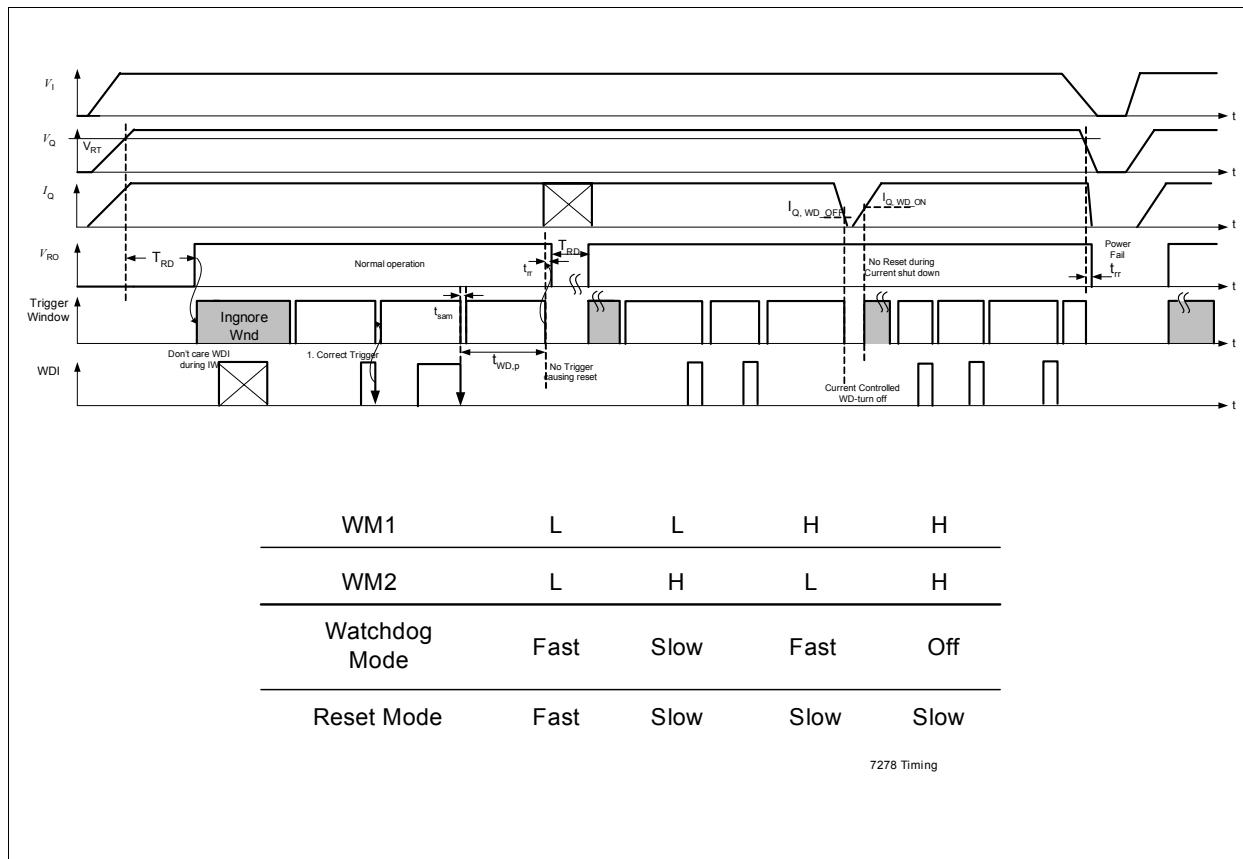

Figure 5 Watchdog Timing Diagram, Watchdog and Reset Modes
| 6 | WM2 | Watchdog Mode Bit 2 watchdog and reset mode selection, see Figure 5 ; connect to Q or GND |
| 7 | WM1 | Watchdog Mode Bit 1 watchdog and Reset mode selection, see Figure 5 ; connect to Q or GND |
The watchdog uses a fraction of the charge pump oscillator's clock signal as timebase. The watchdog timebase can be adjusted using the pins WM1 and WM2 (see Figure 5). The watchdog can be turned off setting WM1 and WM2 to high level. The timing values used this text refer to typ. values with WM1 and WM2 connected to GND (fast watchdog and reset timing).
Figure 5 shows the state diagram of the watchdog (WD) and the mode selection. After power-on, the reset output signal at the RO pin (microcontroller reset) is kept LOW for the reset delay time T_{RD} of typ. 16 ms. With the LOW to HIGH transition of the signal at RO the device starts the ignore window time t_{CW} (32 ms). Next the WD starts the Watchdog Period (time frame within a trigger at WDI must occur). From now on the timing of the signal on WDI from the micro controller must correspond the WD-Period $t_{WD,p}$ correspondent the electrical characteristics and based on the setting on the WM pins. A Re-Trigger of the WD-Period is done with a HIGH-to-LOW Transient at the WDI-pin within the set $t_{WD,p}$.